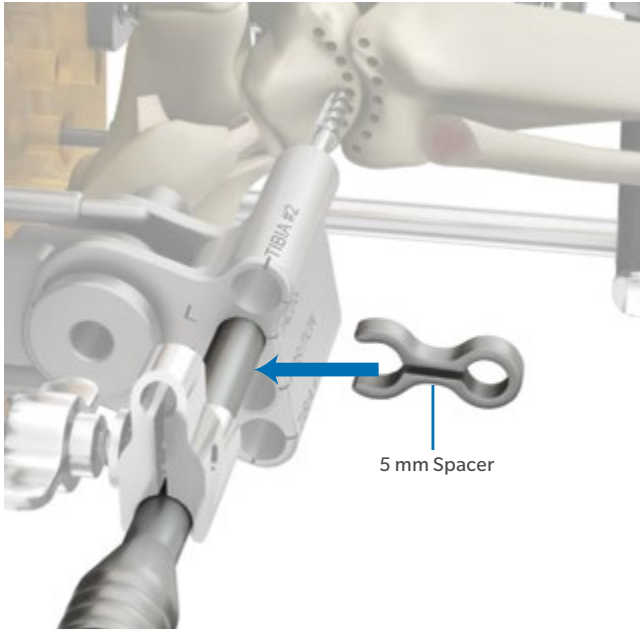

Fig. 50
- Snap the 5 mm Spacer onto the Bur Guard between the Bur Guard Stop and the Cutting Guide (Fig. 50).